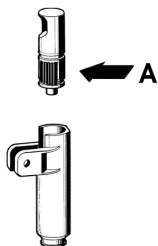

figure 2
- 2 - Lubricate the faucet piston (in the area A shown in fig. 2) using only the grease supplied by the manufacturer or other oil used for food.